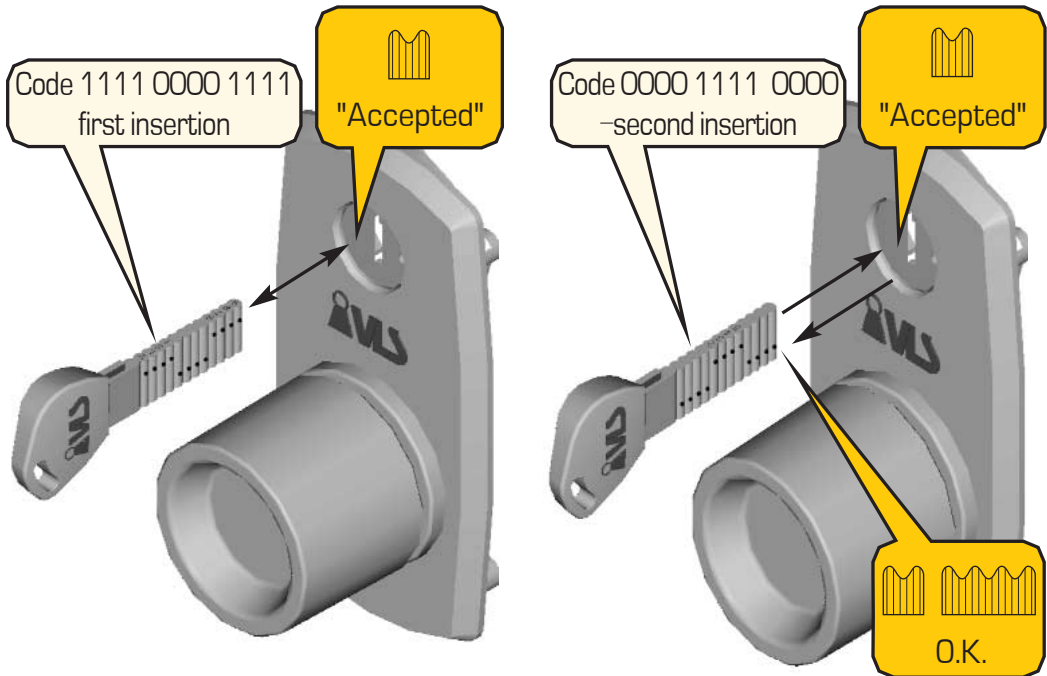

Figure 20 – Entering the programming mode, entering the factory master code"
- insert the key into the keyhole up to the stop, and then remove it. When you insert the key, the "Accepted" signal shall be heard, and when you remove it the "O.K." signal shall be heard (fig. 20).